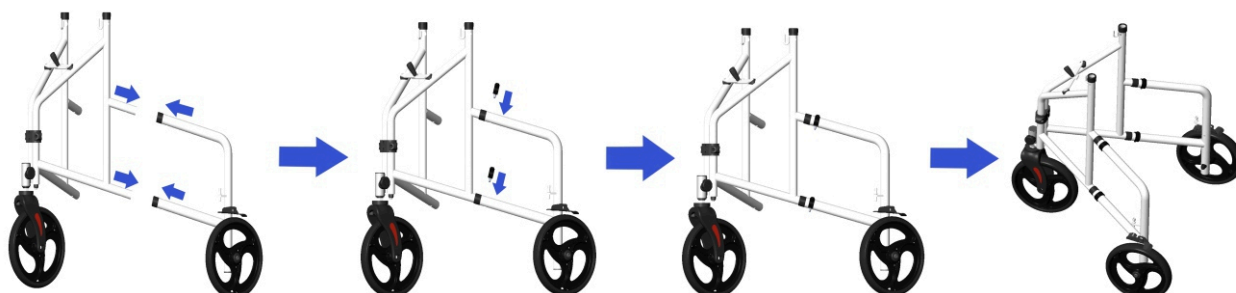

Figure 3
Step 2 (as shown in Figure 3):Take the left rear frame assembly (3) and insert it into the left frame of the main frame assembly (1). After insertion, align the holes of the left rear frame assembly (3) with those of the left frame of the main frame assembly (1). Insert the C-shaped pin (10) through the aligned holes of the left frame and the left rear frame assembly to connect them. Repeat the same process for the right rear frame assembly (5).